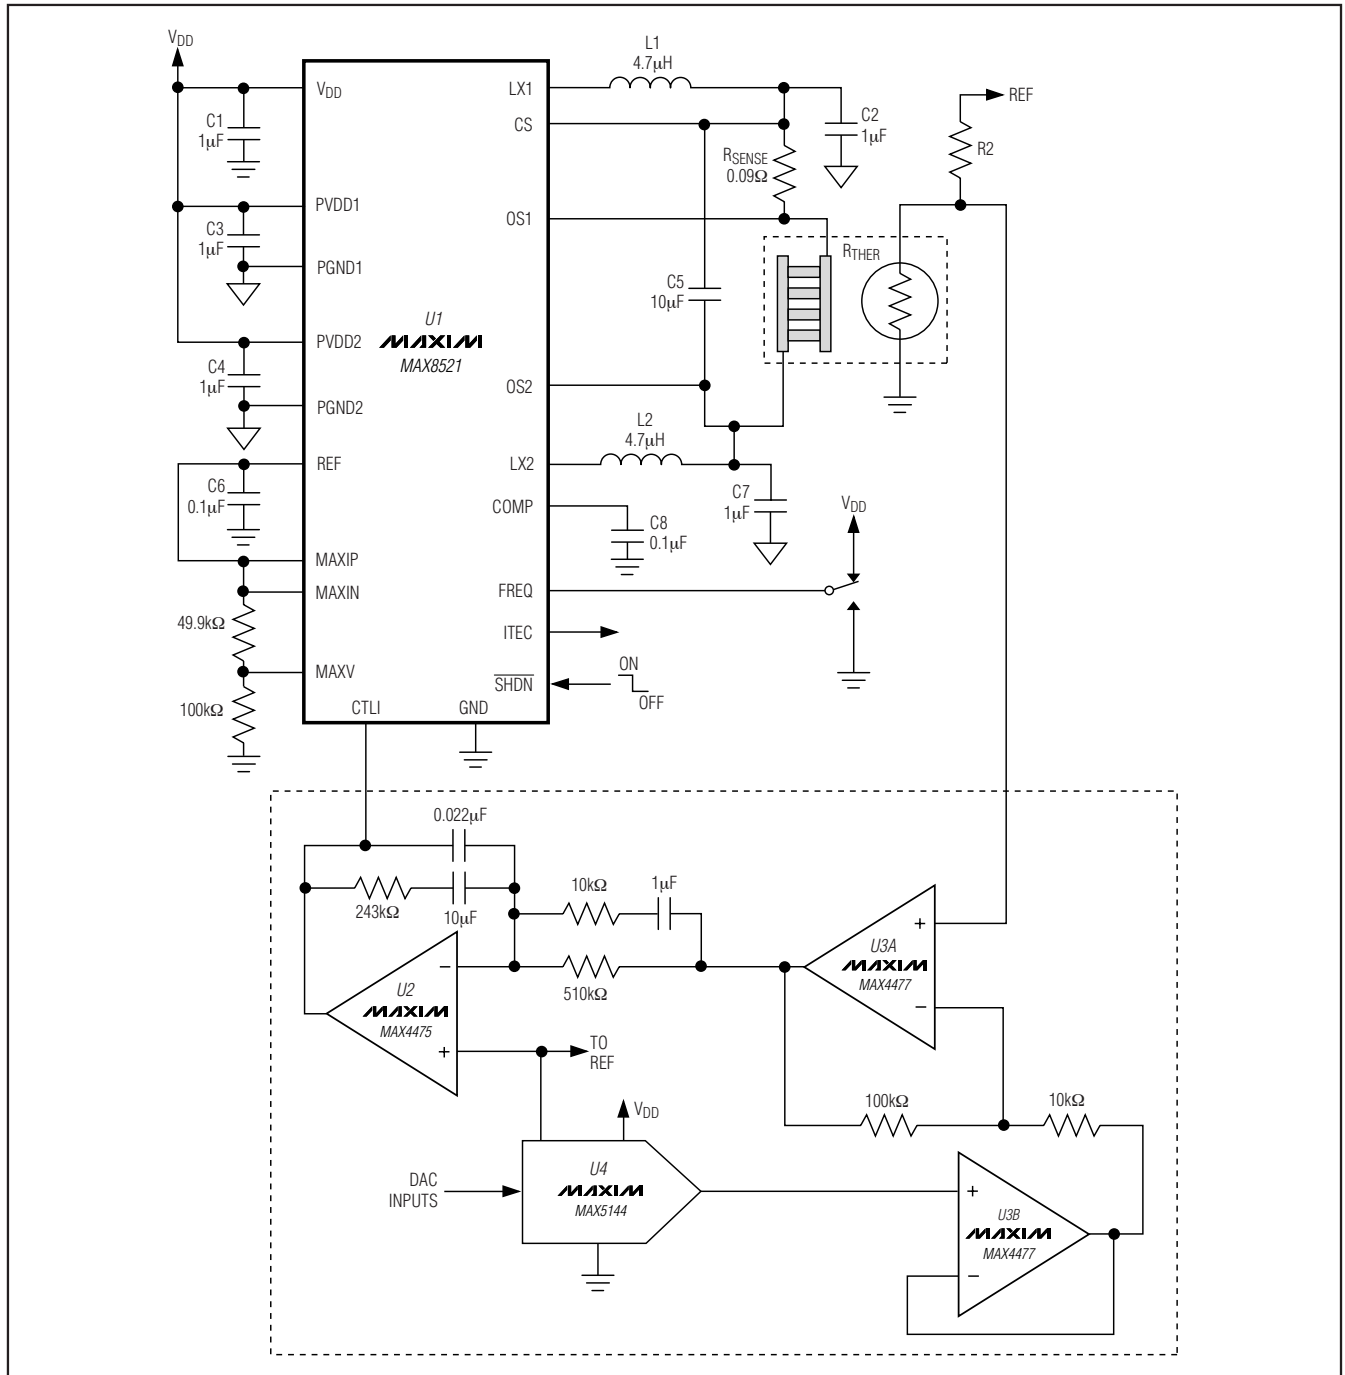

Figure 1. MAX8521 Typical Application Circuit
($V_{DD} = 5V$, circuit of Figure 1, $T_A = +25^\circ C$ unless otherwise noted.)
The MAX8520/MAX8521 TEC drivers consist of two switching buck regulators that operate together to directly control the TEC current. This configuration creates a differential voltage across the TEC, allowing bi-directional TEC current for controlled cooling and heating. Controlled cooling and heating allow accurate TEC temperature control to within 0.01°C. The voltage at CTLI directly sets the TEC current. An external thermal-control loop is typically used to drive CTLI. Figures 1 and 2 show examples of the thermal-control-loop circuit.
Table 1. TEC Connection for Figure 1
The MAX8520/MAX8521 include an on-chip voltage reference. The 1.50V reference is accurate to 1% over temperature. Bypass REF with 0.1μF to GND. REF can be used to bias an external thermistor for temperature sensing as shown in Figures 1 and 2.
The common-mode filter capacitors (C2 and C7 of Figure 1) are used as filter capacitors to ground for each output. The output ripple voltage depends on the capacitance, the ESR of these capacitors, and the inductor ripple current. Ceramic capacitors are recommended for their low ESR and impedance at high frequency.
The differential-mode filter capacitor (C_5 in Figure 1) is used to bypass differential ripple current through the TEC as the result of unequal duty cycle of each output. This happens when the TEC current is not at zero. As TEC current increases from zero, both outputs move away from the 50% duty-cycle point complementarily. The common-mode ripple decreases, but the differential ripple does not cancel perfectly, and there will be a resulting differential ripple. The maximum value happens when one output is at 75% duty cycle and the other is at 25% duty cycle. At this operating point, the differential ripple is equal to 1/2 of the maximum common-mode ripple. The TEC ripple current determines the TEC performance, because the maximum temperature differential that can be created between the terminals of the TEC depends on the ratio of ripple current and DC current. The lower the ripple current, the closer to the ideal maximum. The differential-mode capacitor provides a low-impedance path for the ripple current to flow, so that the TEC ripple current is greatly reduced. The TEC ripple current then can be calculated as follows:
There are numerous ways to implement the thermal loop. Figures 1 and 2 show designs that employ precision op amps, along with a DAC or potentiometer to set the control temperature. The loop can also be implemented digitally, using a precision A/D to read the thermistor or other temperature sensor, a microcontroller to implement the control algorithm, and a DAC (or filtered-PWM signal) to send the appropriate signal to the MAX8520/MAX8521 CTLI input. Regardless of the form taken by the thermal-control circuitry, all designs are similar in that they read temperature, compare it to a set-point signal, and then send an error-correcting signal to the MAX8520/MAX8521 that moves the temperature in the appropriate direction.
6) To ensure high DC-loop gain and minimum loop error, keep the board layout adjacent to the negative input pin of the integrator (U2 in Figure1) clean and free of moisture. Any contamination or leakage current into this node can act to lower the DC gain of the integrator which can degrade the accuracy of the thermal loop. If space is available, it can also be helpful to surround the negative input node of the integrator with a grounded guard ring.